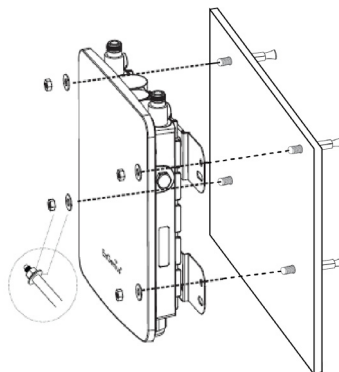

Figure 17. Installing to the Wall Using Bolts
7. Attach the nuts and washers to the bolts in the concrete wall to install the access point. Refer to Figure 17.